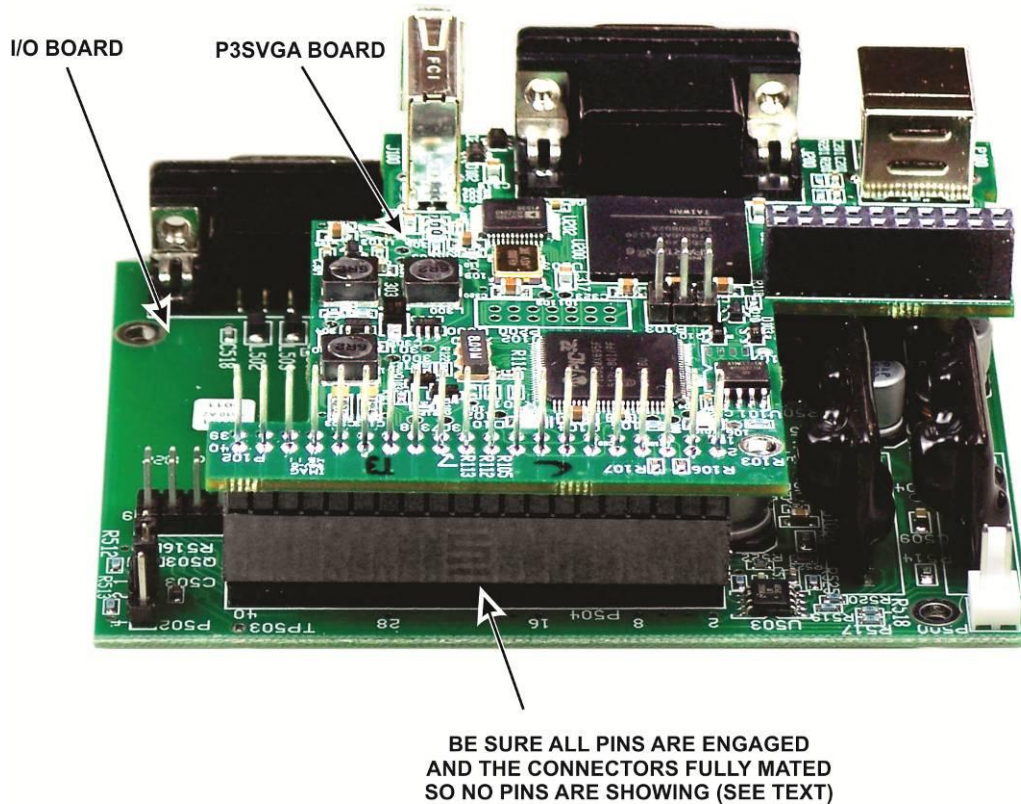

Figure 6. Mating the I/O and P3SVGA Boards.
□ Mount the P3SVGA board on the I/O board as shown in Figure 6. The connector on the P3SVGA board mates with the connector on the I/O board that originally received the ribbon cable. **Be sure the connectors are aligned so that all pins engage. To avoid over-stressing the boards, place the I/O board on a firm surface. You may need to rock the P3SVGA board slightly while pressing down to “walk” the pins into the connector like you did when removing the ribbon cable earlier.**